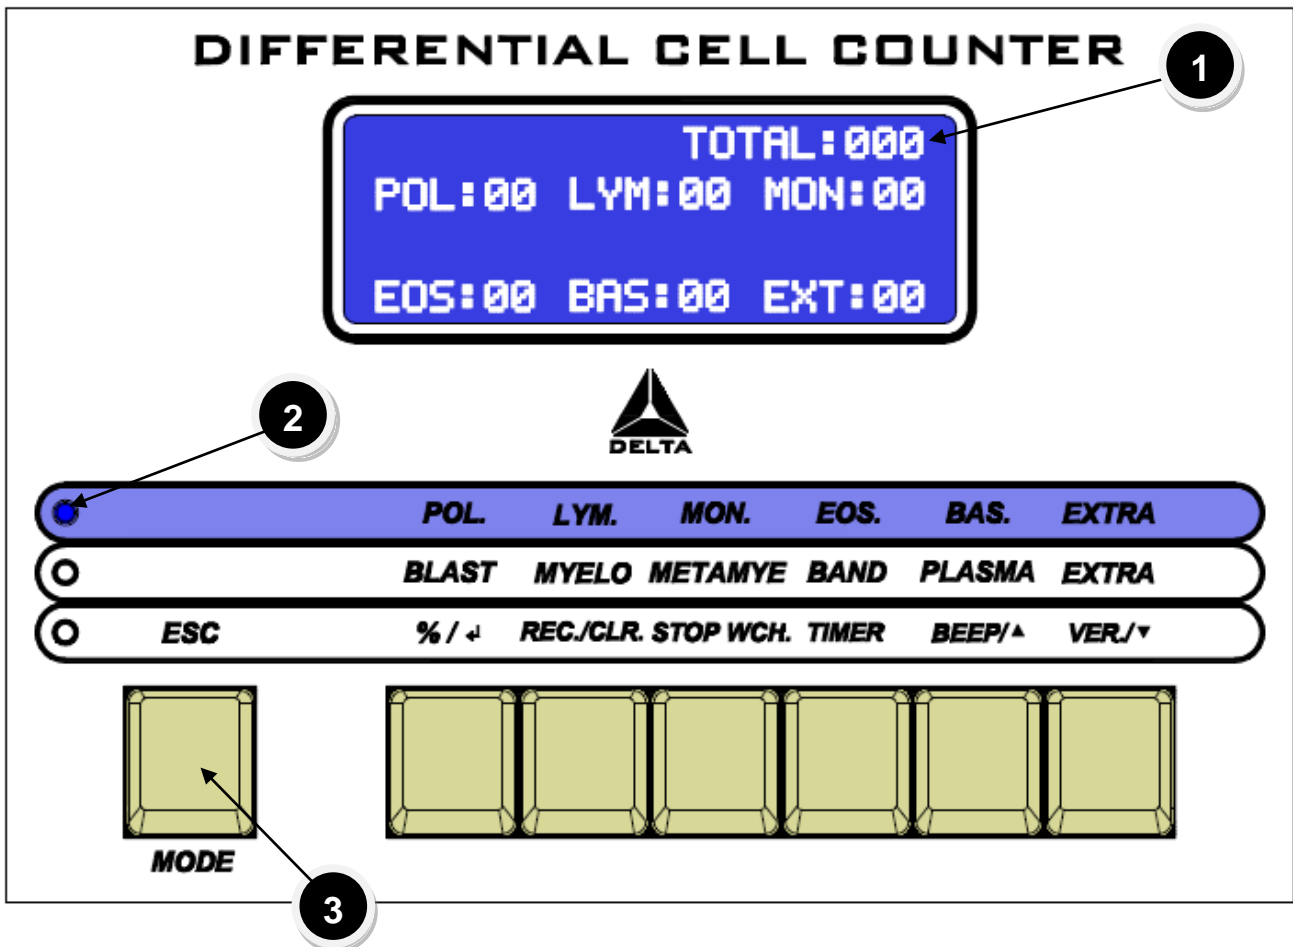
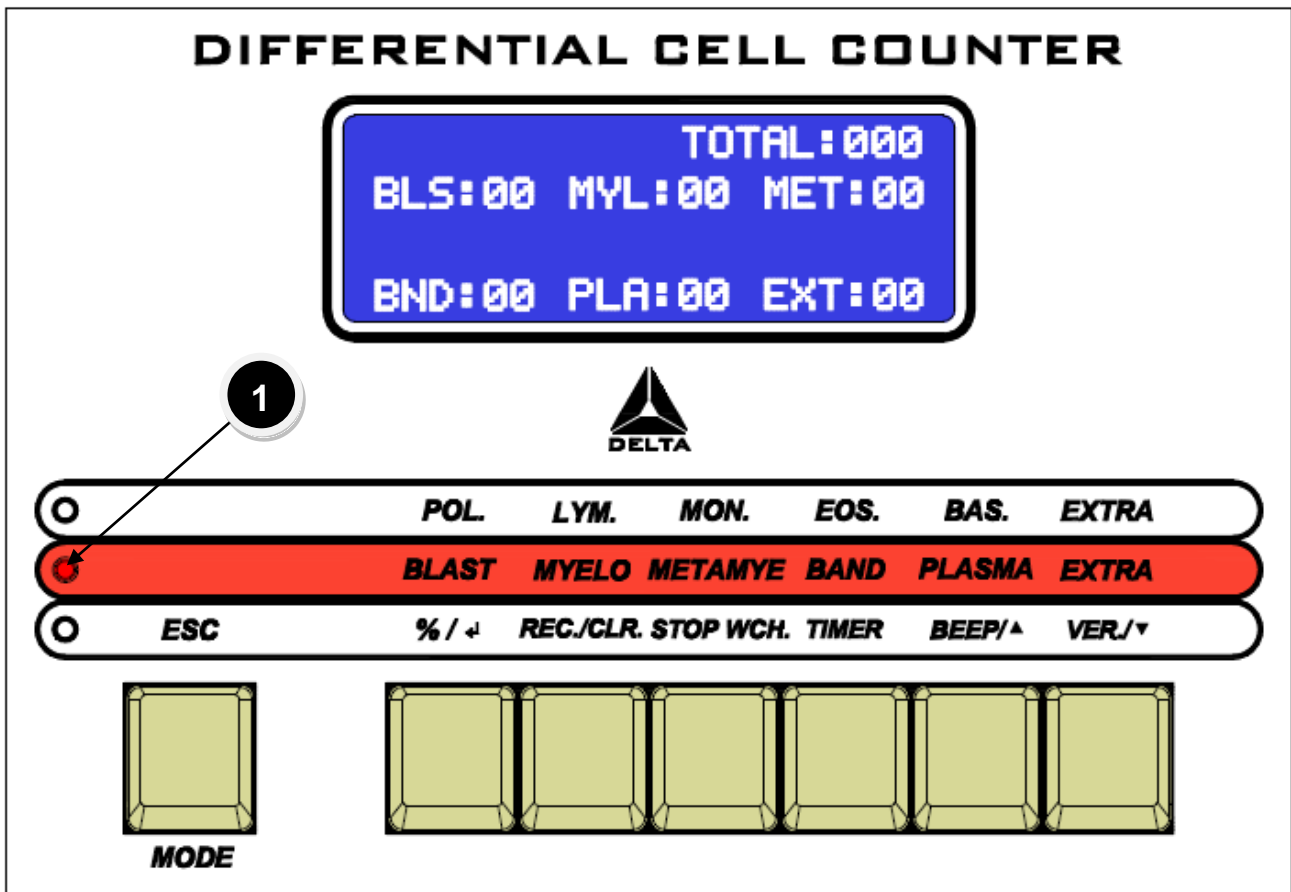
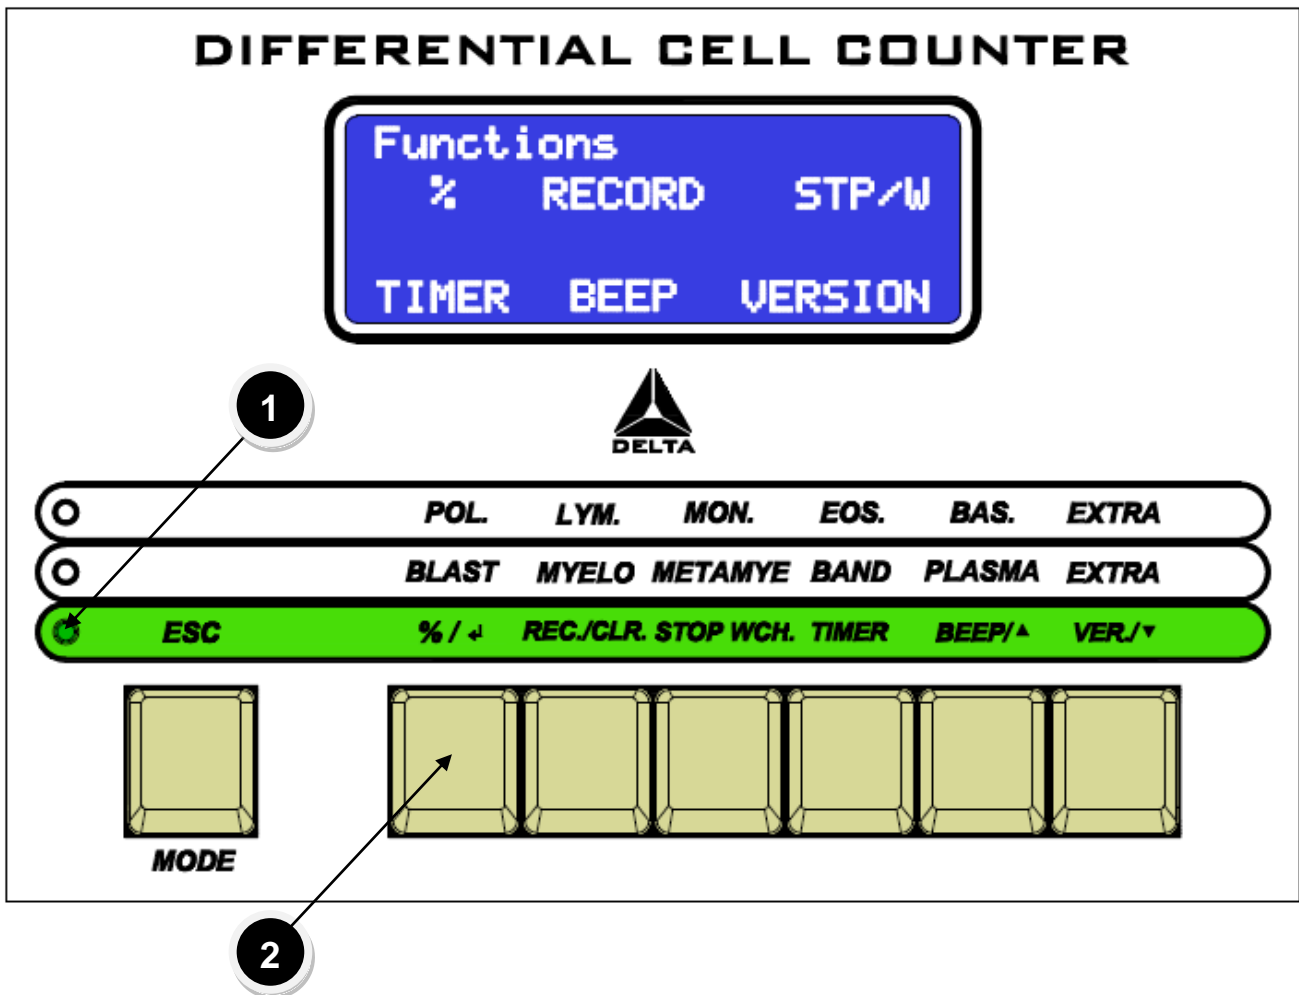

Fig. 1 MODE-A (NORMAL CELL PARTICLES)
Fig. 2 MODE-B (ABNORMAL CELL PARTICLES)
Fig.3 MODE-C (FUNCTIONS)
- 4.2 Switch **ON** the unit and the display shows **MODE-A** (Fig.1) where normal cell particles (Poly, Lym, Mon, Eos, Bas and Extra) are counted by pressing the respective key given below each cell particle's name.
MODE-A (Fig.1) is the default mode for every time the unit is switched **ON** which is indicated by a glow of blue led light (Fig. 1/2).
- 4.3 Press **MODE** key (Fig. 1/❶) to choose **MODE-B** (Fig. 2) where abnormal cell particles (Blast, Myelo, Metamye, Band, Plasme and Extra) are counted by pressing the respective key given below each cell particle's name.
MODE-B is indicated by a glow of red led light (Fig. 2/❶).
- 4.4 Using the respective key under **MODE-A** and **MODE-B**, count the cell particles. The sum total of each cell particles is shown on the upper right corner **TOTAL: 000** (Fig. 1/❶).
- 4.5 After every **TOTAL: 100** (Fig. 1/❶) count the unit gives a long beep sound signal.
4.6 Press **MODE** key (Fig. 1/③) to choose **MODE-C** (Fig. 3) for **FUNCTIONS** like Percentage calculator, Record, Stop Watch, Timer and Beep (Key sound).
MODE-C is indicated by a glow of green led light (Fig. 3/①).
4.7 Press **MODE** key (Fig. 1/③) to select from **MODE-A, B & C**. Each press of **MODE** key (Fig. 1/③) consecutively activates the next **MODE** in ascending order, which is indicated by a glow of led provided on the left hand side of respective **MODE**.
Blue led light	: MODE-A NORMAL CELL PARTICLES (Fig. 1/②)
Red led light	: MODE-B ABNORMAL CELL PARTICLES (Fig. 2/①)
Green led light	: MODE-C FUNCTIONS (Fig. 3/①)
- 4.8 Press **%/↵** key (Fig. 3/②) to see % value of Normal cell particles followed up by % value of Abnormal cell particles by pressing **%/↵** key another time. Subsequently, press **%/↵** key (Fig. 3/②) to save data by selecting "YES" with the help of ↵ (Enter), ▲ (Up), ▼ (Down) and **ESC** key or select "NO" to return to **MODE-A** (Fig. 1).
- 4.9 In case of no value entered by user, by pressing **%/↵** key (Fig. 3/②) it display "**NO VALUE FOUND!**" message.